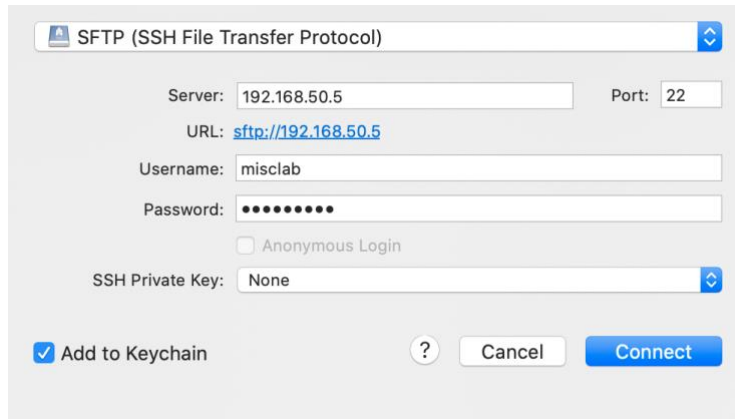

Figure 10. Cyberduck new sftp connection window
1. Connect to the pySAS with your SFTP client. Select ‘Open Connection’ and choose the protocol SFTP. Use the following settings (Figure 10):